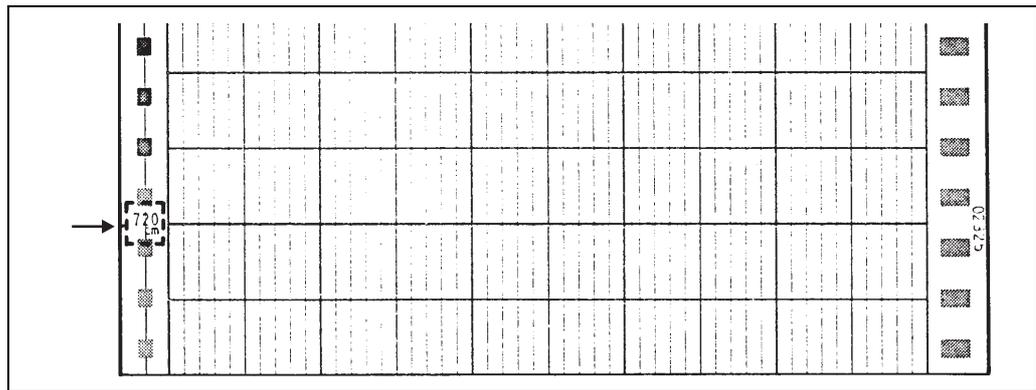

fig. 27: Remaining chart length
- Is there enough chart paper remaining? Remaining chart length (→ Fig. 27, Pos. 1) is printed on the left margin of the chart at intervals of 20 cm (7.9 inch).